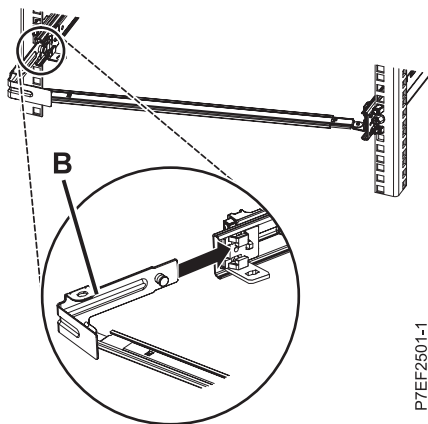

Figure 14. Extending the pin and installing the bracket into the slide rail
3. To attach the other side of the support arm to the backside of the slide rail, slide the bracket (**B**) into the left slide rail until the spring-loaded latch snaps into place, as shown in Figure 14.